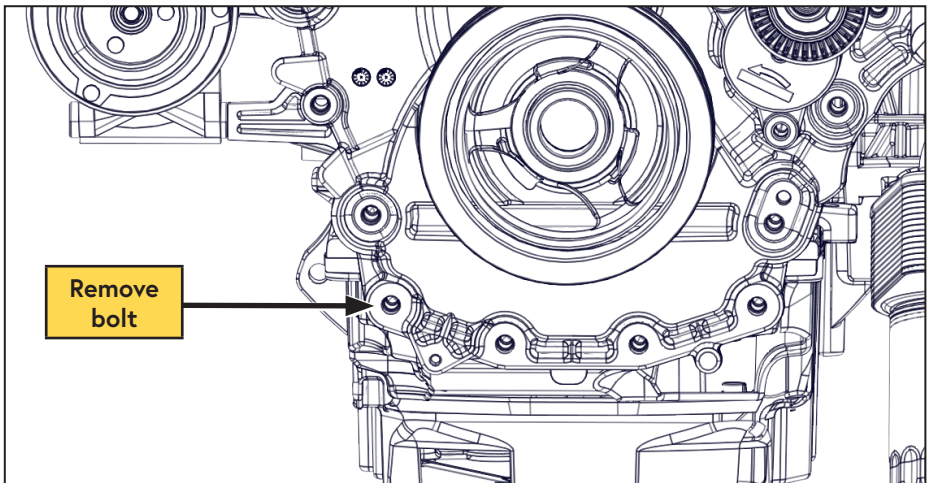

Figure 19 — Remove cam cover bolt
- Remove the cam cover bolt and discard it (Figure 19).